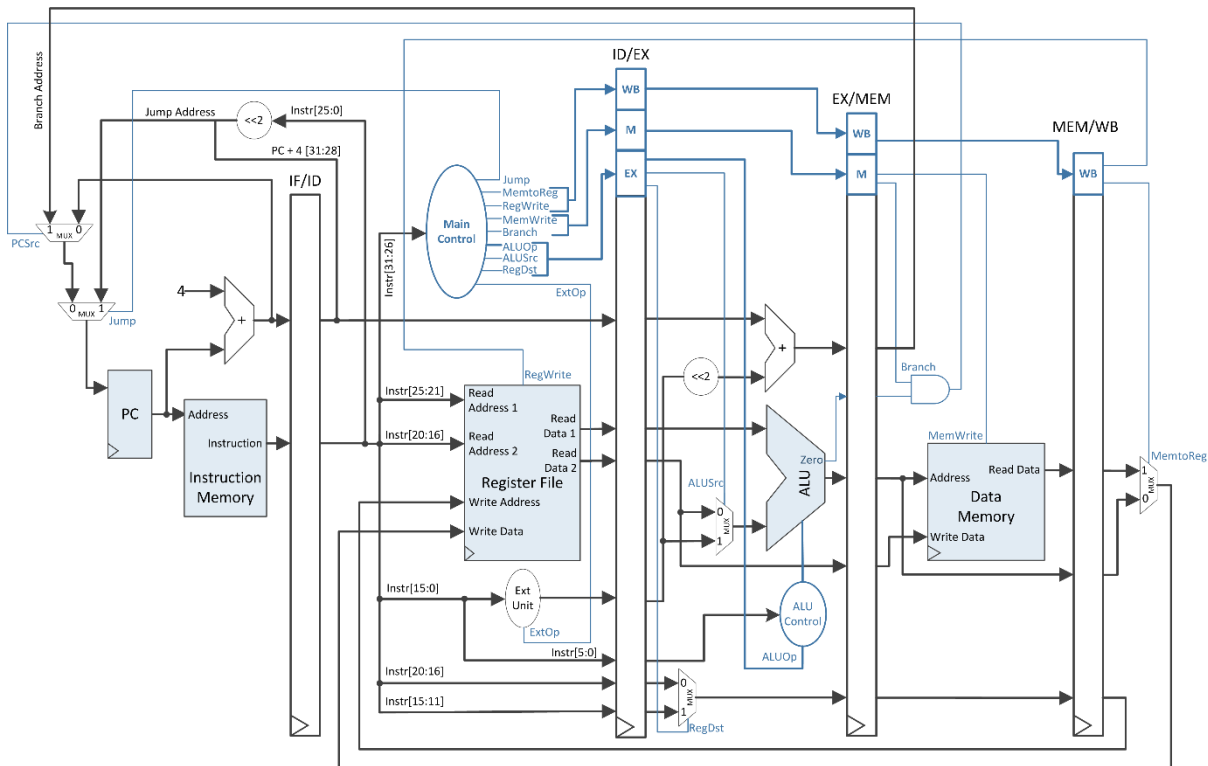

Figure 5: MIPS 32 Pipeline Data-Path + Control, obtained from the partitioning of the Single-Cycle Data-Path
The data-path together with the control unit for the pipelined MIPS 32 CPU is presented in Figure 5.
Use the data-path from Figure 5 (!) but keep in mind your MIPS 16 processor's features: 16 bits, not 32; based on your own chosen instruction the data-path may contain additional elements.
**Attention:** when introducing the new pipeline registers some small modifications in your functional units may appear. You will easily identify these modifications by carefully studying Figure 5, and the particular data-paths for each functional unit of the MIPS 16 processor – laboratories 05, 06, 07. For example the ID unit needs an additional input port for the write address of the Register File, address that will come from the last pipeline register MEM/WB.